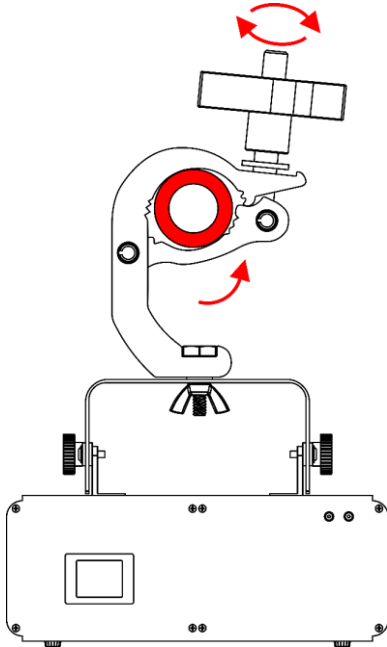
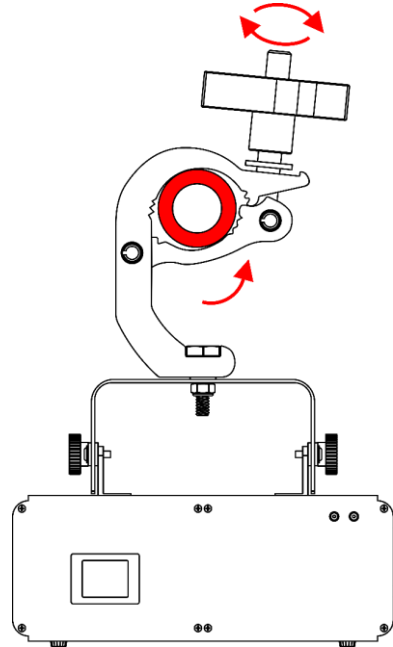

Fig. 07
Fig. 08
06) Put the device, with the installed load, around a tube ($\varnothing$ 48–51 mm) and close the **lock (04)**. See Fig. 07 or Fig. 08.